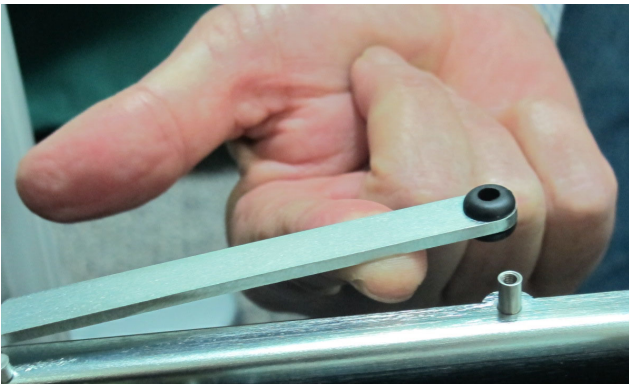

Figure 8-135 Securing the Cage Door with the Securing Arm
- 3.) Secure the cage door by clipping the cage door securing arm to the device chassis - Figure 8-135.